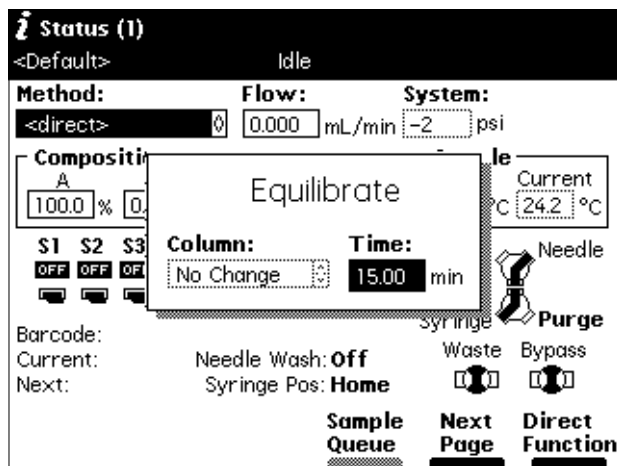

Figure 4-12 Equilibrate Dialog Box
4. Select **Equilibrate**, then press **Enter**. The Equilibrate dialog box appears (see Figure 4-12).